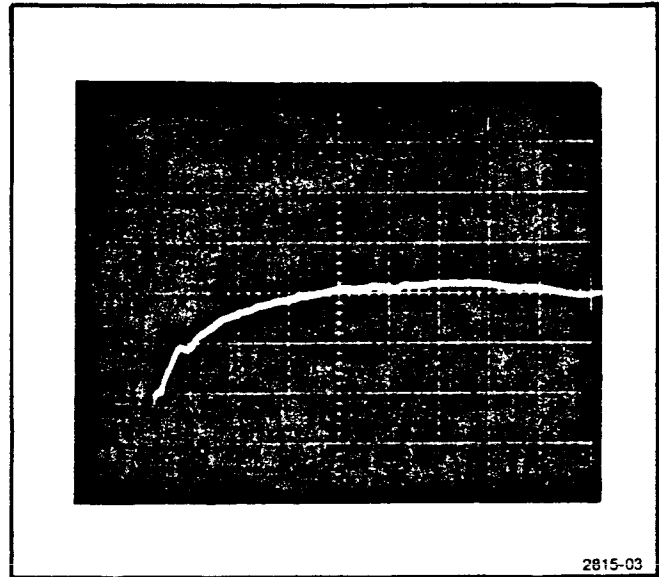

Fig. 5-2. Typical sampling system response curve without the TD Pulser (Low Edge Aberration Check, steps 13r and 13x).
r. Switch the deflection factor of the 7S11 to a calibrated 5 mV/div (Cal In). Use the 7S11 DC Offset controls to return the top of the waveform to center screen and align the displayed signal vertically with the reference graph in the area of the last horizontal division. See Fig. 5-2.
x. Switch the vertical deflection factor control on the 7S11 for a calibrated 5 mV/div. Use the 7S11 DC Offset controls to return the top of the waveform to center screen and vertically align the displayed signal with the reference graph in the area of the last horizontal division. See Fig. 5-2.